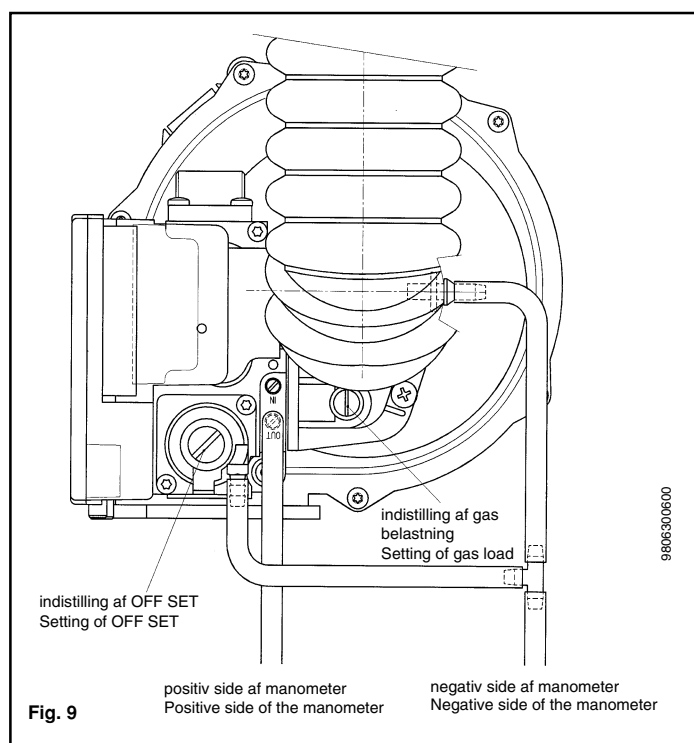

Fig. 9
Before the aforementioned adjustment is made, a differential pressure micro-manometer must be connected. This is done by connecting the positive side of the manometer to the measuring nozzle of the gas fitting as shown in figure 9, and the negative side of the manometer to a suitable T-piece, which is connected as shown in figure 9.
åbnes / lukkes (se side - fig. 9). Kedlen skal være i stabil driftsvarm tilstand.
5. Kedlens maksimale ydelse indstilles derefter med betjeningsknappen (9).
6. Kontroller om CO₂-værdien målt i røgaftrækket er 9,2%. Hvis ikke, skal den stilles på indstillingsskruen for gasmængde, der befinder sig på det med gasventilen kombinerede venturirør (se fig. 9).
7. Funktionen „INDSTILLING“ forlades, idet omskifter (11) slukkes og tændes igen. Funktionen forlades i hvert tilfælde automatisk efter 20 minutters forløb.
pressure value reading on the micro-manometer is 0. If not, the adjusting screw on the gas valve must be opened / closed (see page – fig. 9). The boiler must be in constant operating-heat mode.
5. Then set the maximum boiler output by means of the control button (9).
6. Check that the CO₂ value measured at the flue outlet is 9.2%. If not, it is necessary to alter the adjusting screw for gas quantity, which is located on the venturi pipe combined with the gas valve (see fig. 9).
7. You can leave the “SETTING” function by switching off the selector switch (11) and relighting. In any case, the function is automatically closed after 20 minutes.